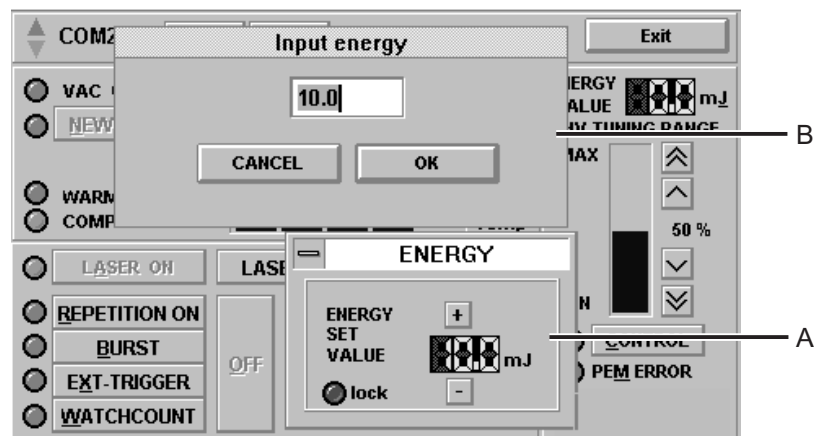

Figure 34: Setting the energy value for the EGY Const. mode
Clicking the energy value display selects the window "ENERGY" that enables the energy value to be changed in 0.5 mJ steps by clicking the "+" or "-" buttons (see Figure 34, A). Alternatively, clicking the display on this subsequent window opens a further window enabling the desired value to be directly entered (B). Any value between the minimum and the maximum permissible stabilized energy value can be entered with a precision of 0.1 mJ. After clicking OK to confirm, laser operation can be started with the entered energy value. The new value appears on the display.